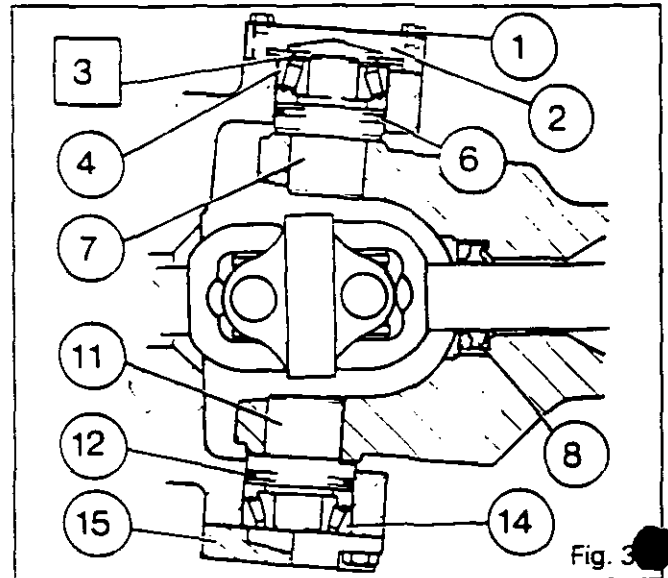

Fig. 3
**Improved front axle - Differential****Removal of swivel housings** (Fig. 3 - 4)
11. Remove bolts (1) and cover (2). Remove shims (3).
14. If necessary, remove oil seals (8) (Fig. 3).